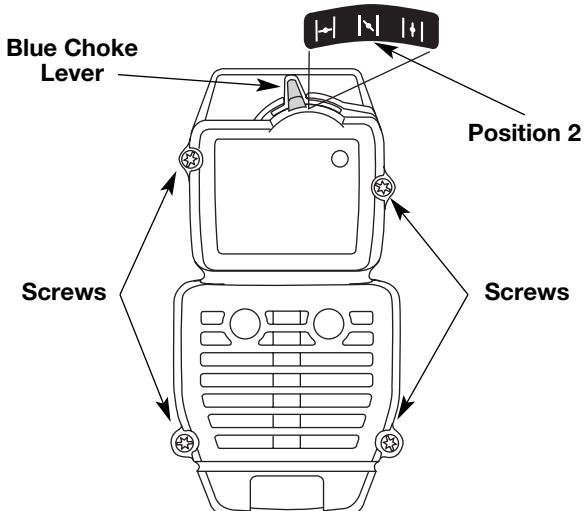

Fig. 23
1. Place the blue choke lever in Position 2 (Fig. 23).
2. Remove the four (4) screws securing the air filter/muffler cover (Fig. 23). Use a T-20 Torx bit screwdriver.
2. Insert the four (4) screws into the holes in the air filter/muffler cover (Fig. 23) and tighten.